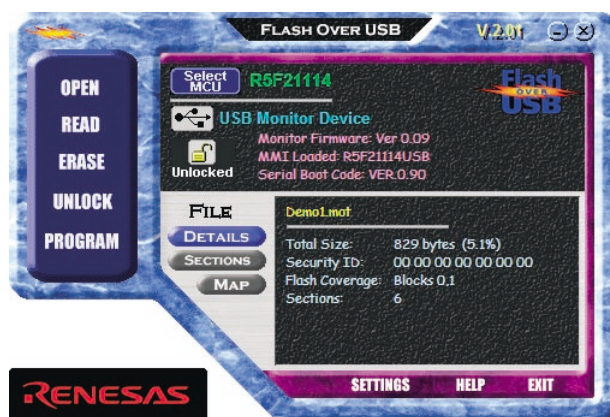

Figure 6. Flash-over-USB™ Programmer Main Menu after loading the Demo Code
- j) When the FoUSB dialog box "Program completed Successfully" appears, click <OK> (Figure 6).